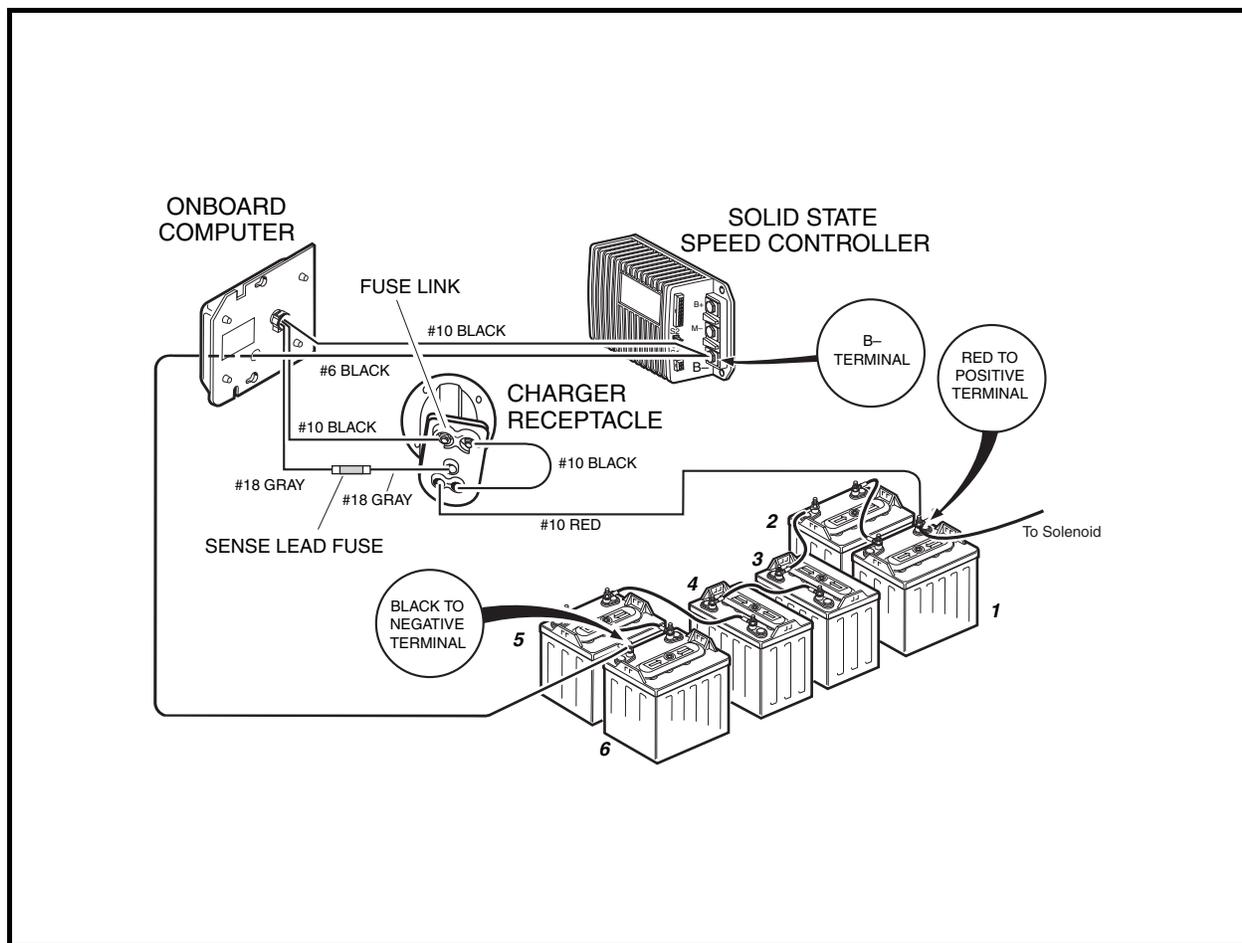
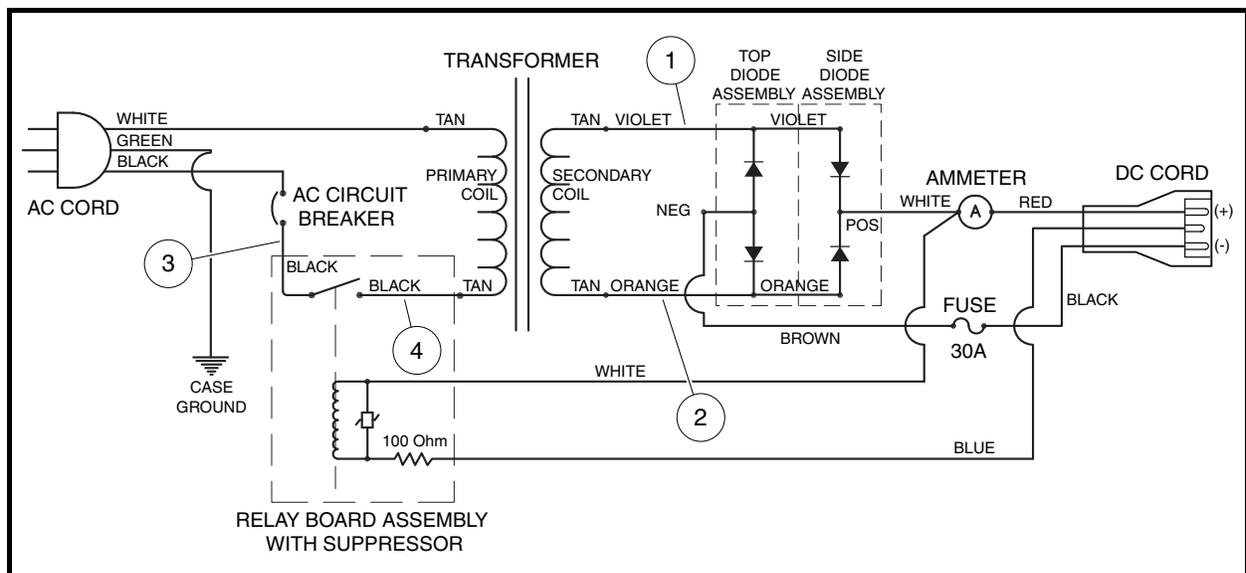
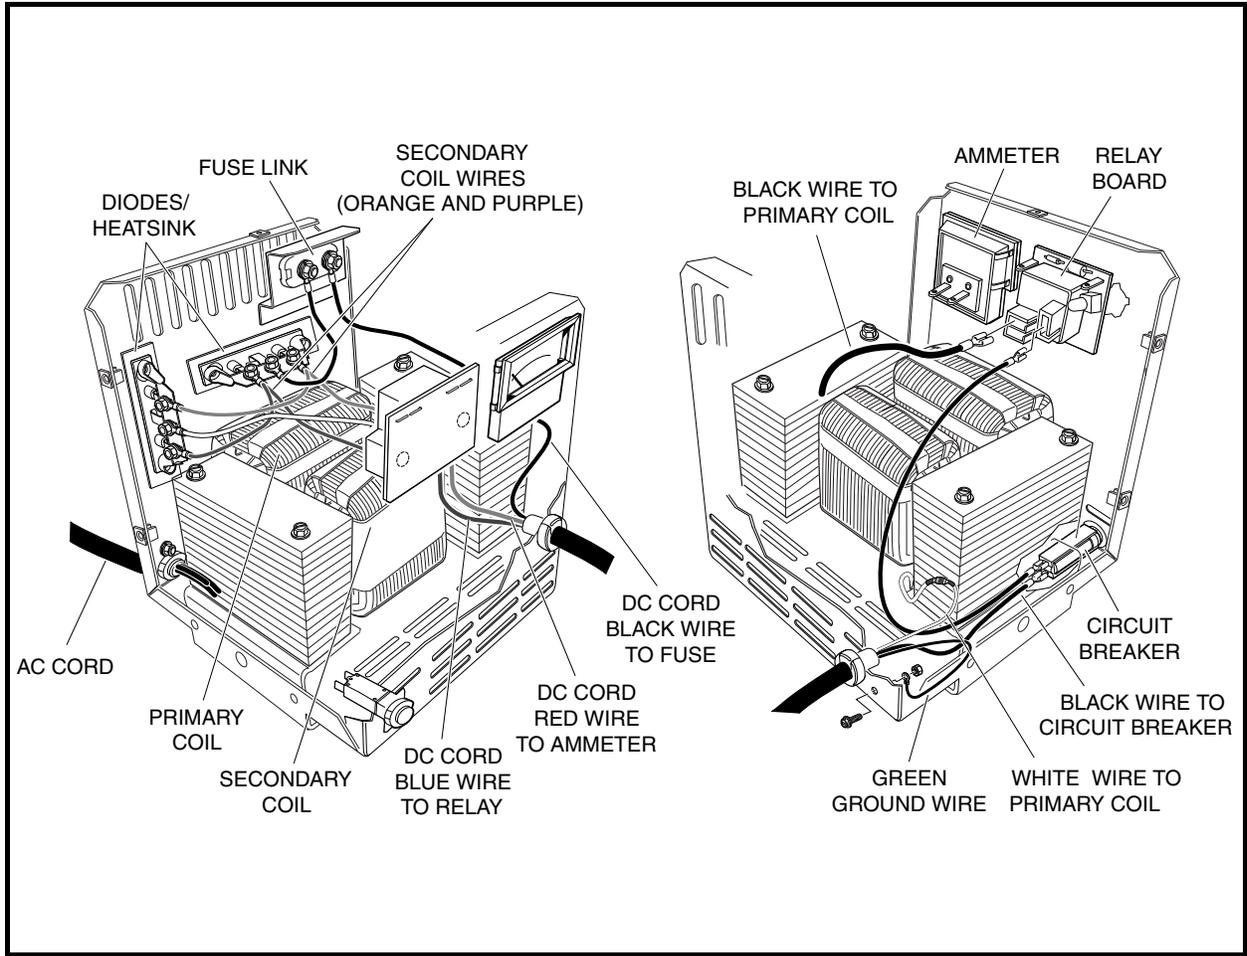

Figure 7-3 Charge Circuit and Battery Configuration – 6 x 8-Volt Turf 1 and Carryall 1 Vehicles
Figure 7-9 PowerDrive 3 Battery Charger Wiring Diagram (External Charger)
Figure 7-10 PowerDrive 3 Battery Charger Components – Model 26580
The negative terminal of the receptacle is connected to the onboard computer (**Figure 7-3, Page 7-4**). The 10-gauge black wire from the onboard computer connects to the B– terminal on the speed controller, and the 6-gauge black wire (also on the controller B– terminal) goes through the onboard computer and connects to the negative (–) post of battery no. 6. The positive terminal of the charger receptacle is connected to the positive (+) post of battery no. 1. The gray wire (sense lead) from the charger receptacle is connected to the sense lead fuse, which is connected to the gray wire from the onboard computer.
3. If the charger does not operate exactly as described above, refer to the wiring diagram and make sure that the vehicle is wired correctly (**Figure 7-3, Page 7-4**) and that the internal charger wiring is correct (**Figure 7-9, Page 7-11**).
- Knowledge of battery charger wiring and component terminology is required before attempting any repair (Figure 7-9, Page 7-11 and Figure 7-10, Page 7-15).